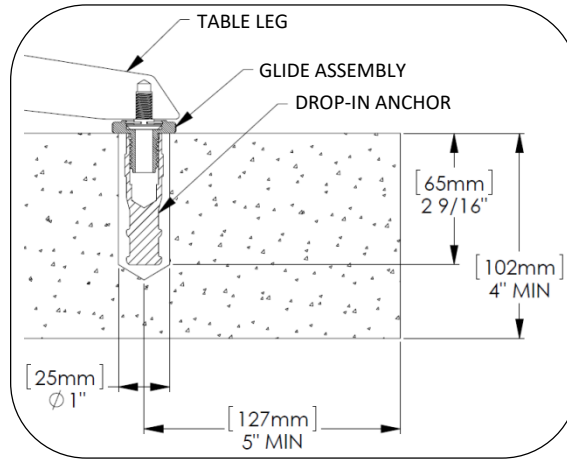

Fig. 2 – anchor hole size
4. Drill holes as noted in Fig. 2. Clear holes of debris per epoxy manufacturer's recommendations.